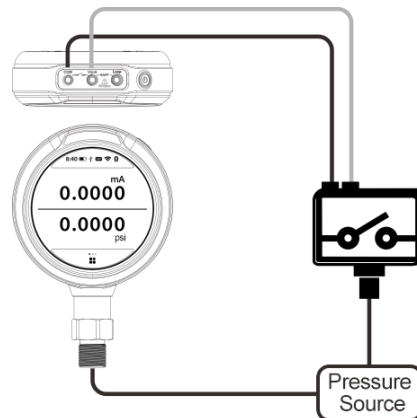

Figure15 Calibrate Pressure Switch
(1) The air and circuit connection between pressure switch and calibrator are shown in Figure15 (in the Figure it is mechanical switch).